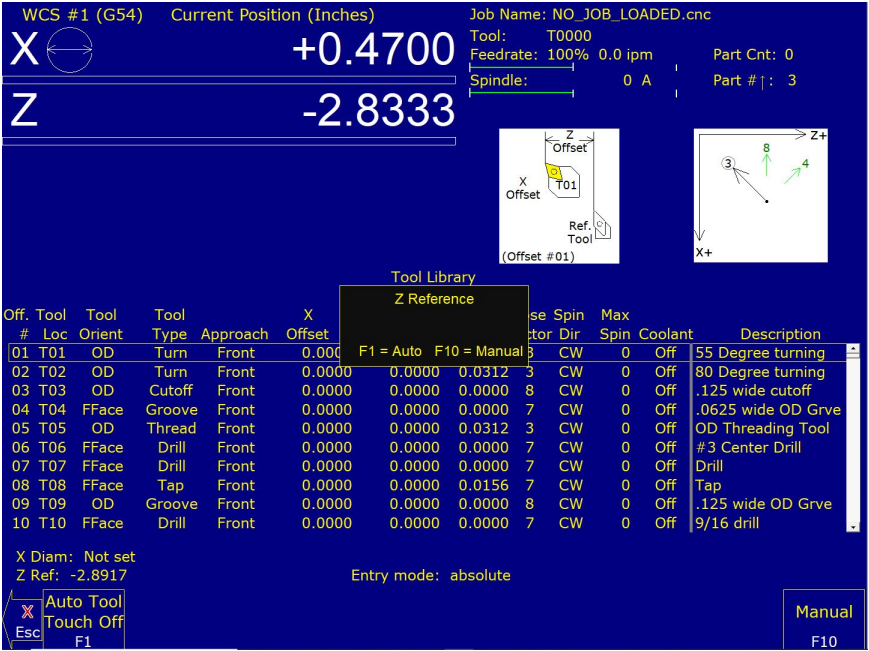

Figure 5.5: **F1 – Z Ref** menu
4. To complete the Z-reference, select the **F1 – Z Ref** key. This will pull the menu options up, as shown in Figure 5.5. You will want to select the **F1 – Auto** key. Press the **Cycle Start** key. Selecting this option will allow the tool to move towards the TT-4/TT-2.